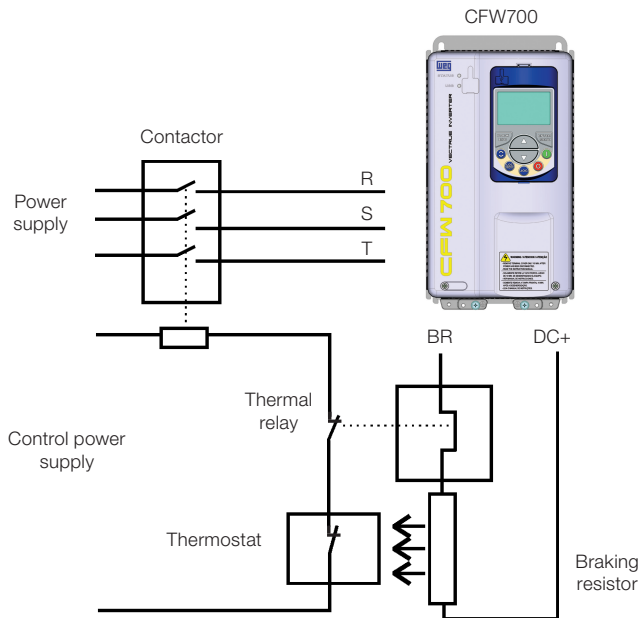

Figure 3.3: Connection of the braking resistor
- The thermal protection of the dynamic braking resistor must be provided externally using a thermal relay in series with the resistor and/or a thermostat in contact with the resistor frame, connected so as to switch the input power supply of the inverter, as shown in Figure 3.3 on page 17.